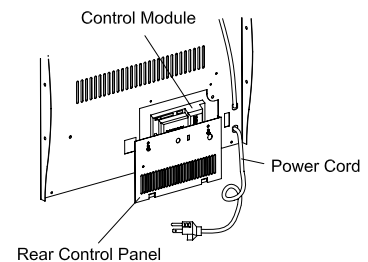
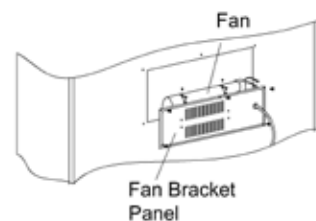
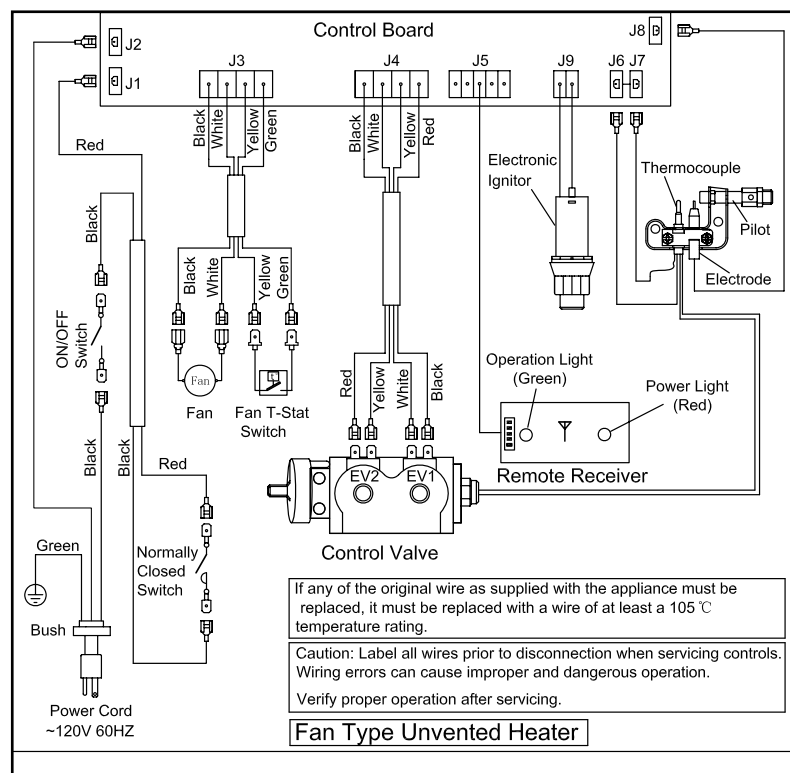

Figure 28 - Control Module Access
Figure 29 - Fan Access
Figure 32 - Override Control System Diagram
2. Remove four screws, take out control module. When installing, reverse the steps above. (See Figure 28 and Figure 32).
2. Mark or tag each wire removed for its exact reconnection. Remove the four screws from the fan. When installing, reverse the steps above. (See Figure 29 and Figure 32).